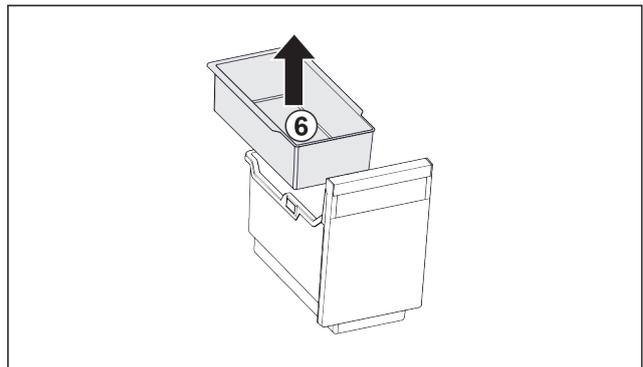

Fig. 29
- ▶ Remove the hang-on tray Fig. 29 (6).